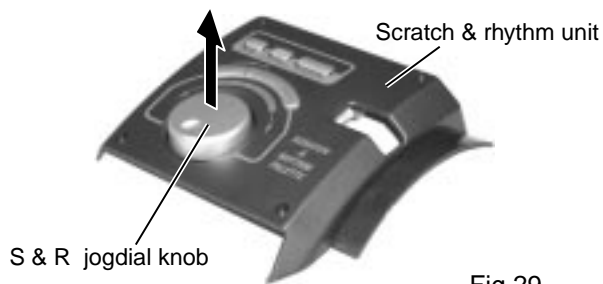

Fig.29
■ Removing the scratch & rhythm board (See Fig.29 and 30)